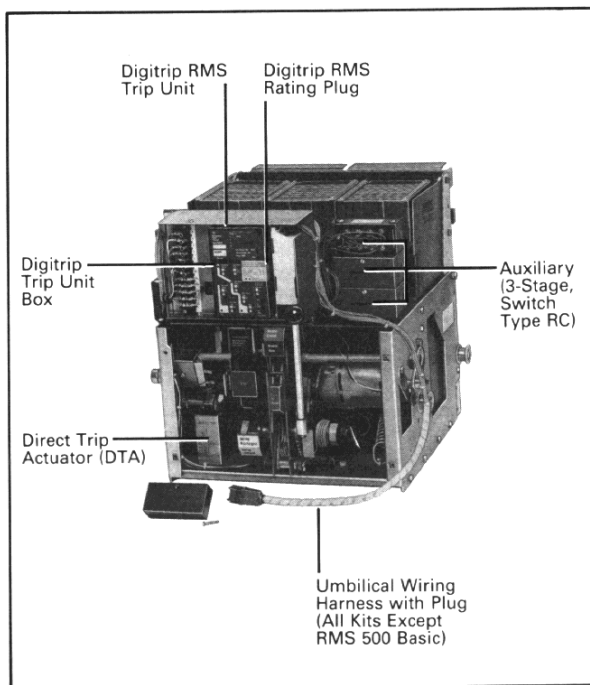

Fig. 3-1. DS-416 E.O. Breaker Equipped with Digitrip RMS 800 Retrofit Kit (Front View, Front Cover Removed)
1. These styles applicable to DS and DSL breakers equipped with type RC auxiliary switches only (See Fig. 3-1). DS and DSL breakers manufactured after 1988 may have Electros witch type auxiliary switches (see Fig. 9-1). If the breaker has Electros witch type auxiliary switches, contact Westinghouse for the correct style number to cover switch addition.
Your Digitrip RMS Retrofit Kit is designed to replace the existing Amptector Trip System employed on the DS or DSL Breaker selected for retrofitting. Figs. 3-1 and 3-2 show a typical DS Breaker equipped with a Digitrip RMS 800 Retrofit Kit. The RMS 800 Retrofit Kit was selected to show the maximum information possible to aid in the description of all model kits.
Digitrip RMS Retrofit kits include a 700 ohm (nominal impedance) Direct Trip Actuator (DTA), which replaces the existing DTA originally provided with the Amptector Trip System. The DTA, Figs. 3-1, 3-3, and 3-9, receives an electrical trip pulse from the trip unit and provides the mechanical trip force to trip the breaker.